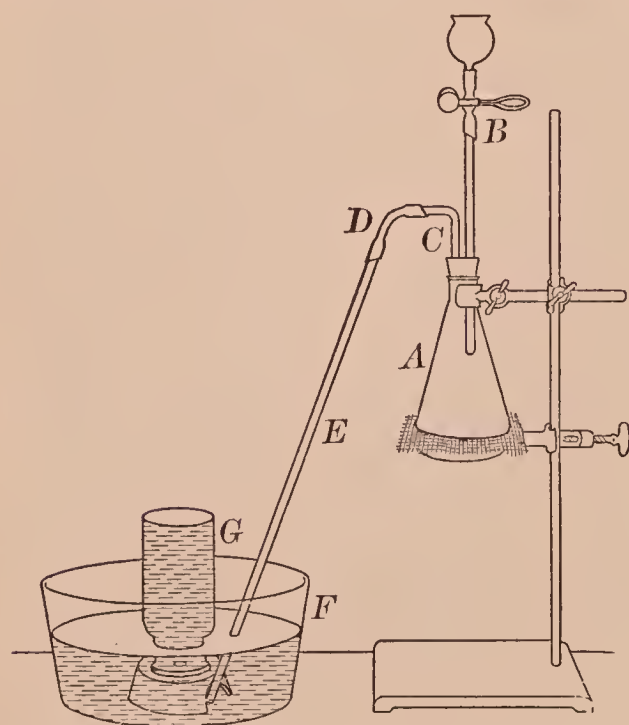

FIG. 40. — Apparatus for preparing nitrogen
**APPARATUS.** — As in Fig. 40, three bottles.
of water, and shake well. Arrange the apparatus, as in Fig. 40, to collect the gas over the water. Fill three bottles with water and invert one in the trough ready to slip into the position of G. Have two more bottles ready to replace this one. Fill the cup of the dropping funnel with water.